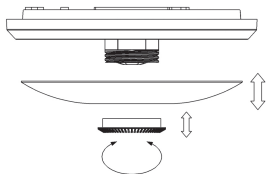

Figure 1
- Unscrew the plastic screw nut and remove the PC lampshade (refer to figure 1).